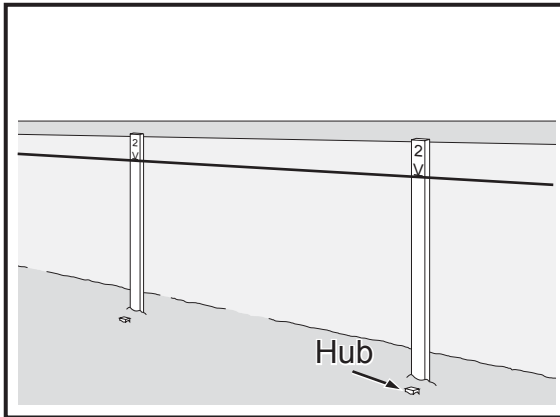

Figure 3-13. Stringline Attached to Lath
3. At each station, staple or Ty-Wrap the stringline directly to the witness lath at the desired “hike-up” (Figure 3-13).